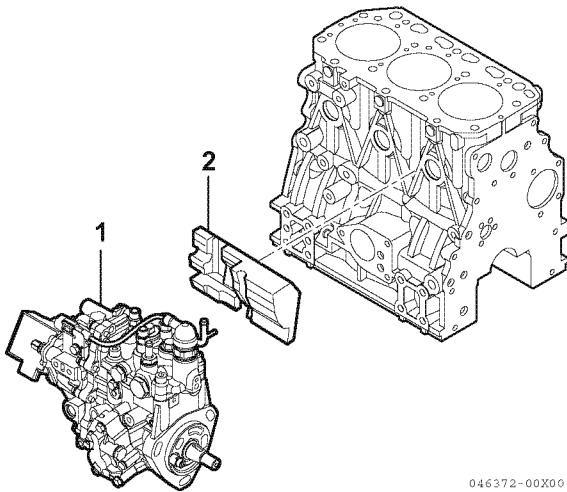

Figure 7-27
11. If equipped, verify the fuel injection pump insulator (2, **Figure 7-27**) is not damaged. Reinstall the insulator and intake manifold if previously removed.